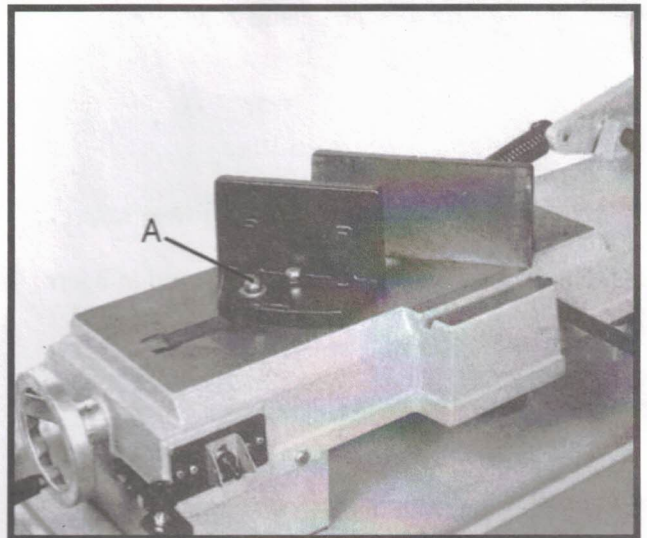

Fig. 10
2. Position vise and re-install as pictured in Fig. 10. Pay particular attention to bolt hole location.
4. Adjust movable vise parallel to fixed vise by loosening bolt (A, Fig. 10), adjusting to parallel, and tightening bolt.